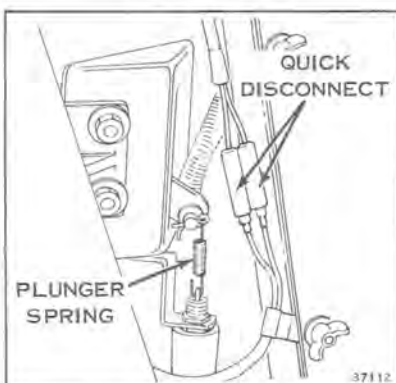

Figure 10-18
- c. Remove brakelamp plunger spring from actuator cam arm. See Figure 10-18.
- d. Disconnect brakelamp wiring at quick disconnect. See Figure 10-18.